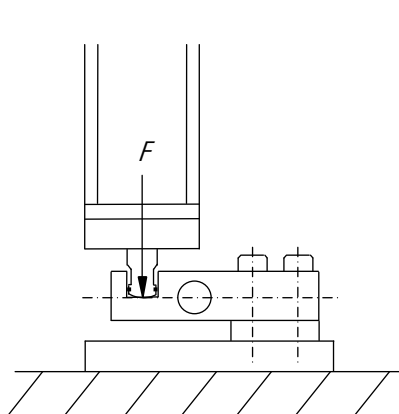
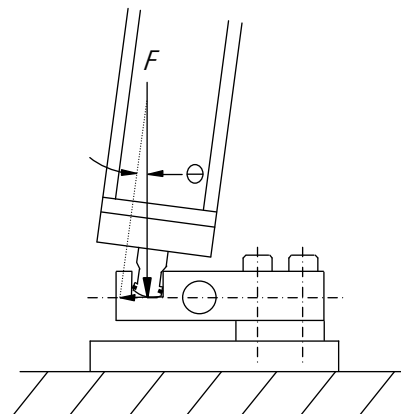

Figure 5-2a: Vertical Force
Figure 5-2b: Angular Force
Figure 5-2a and Figure 5-2b show a weigh module application with the load cell anchored to a foundation. In Figure 5-2a, the force exerted by the tank's weight is perfectly vertical. In Figure 5-2b, the force is applied at an angle. The vertical component (F) of this angular force is normal to and sensed by the load cell; it is equal to the force applied in Figure 5-2a. The horizontal component (side load) = $F \times \text{Tangent } \theta$.